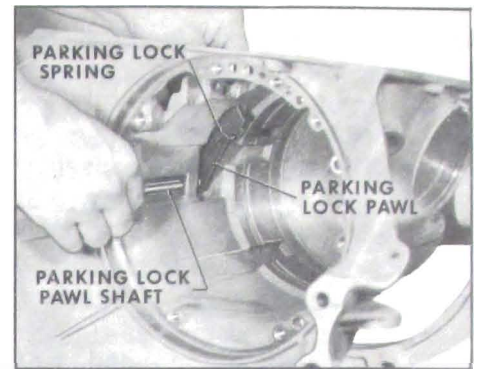

Figure 5-164
6. Slide parking lock pawl shaft out of parking lock pawl. Remove parking lock pawl and spring. See Figure 5-164.